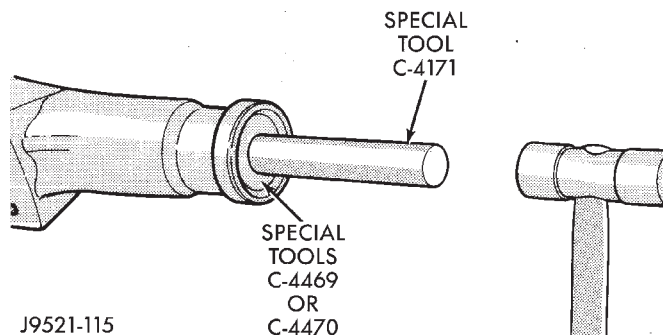

Fig. 33 Overdrive Housing Bushing Installation
- (1) Align bushing oil hole with oil slot in overdrive housing.
- (2) Tap bushing into place with driver handle and Tool C-4171 and C-4469 (Fig. 33).
- (3) Install new oil seal in housing using Seal Installer C-3972-A.